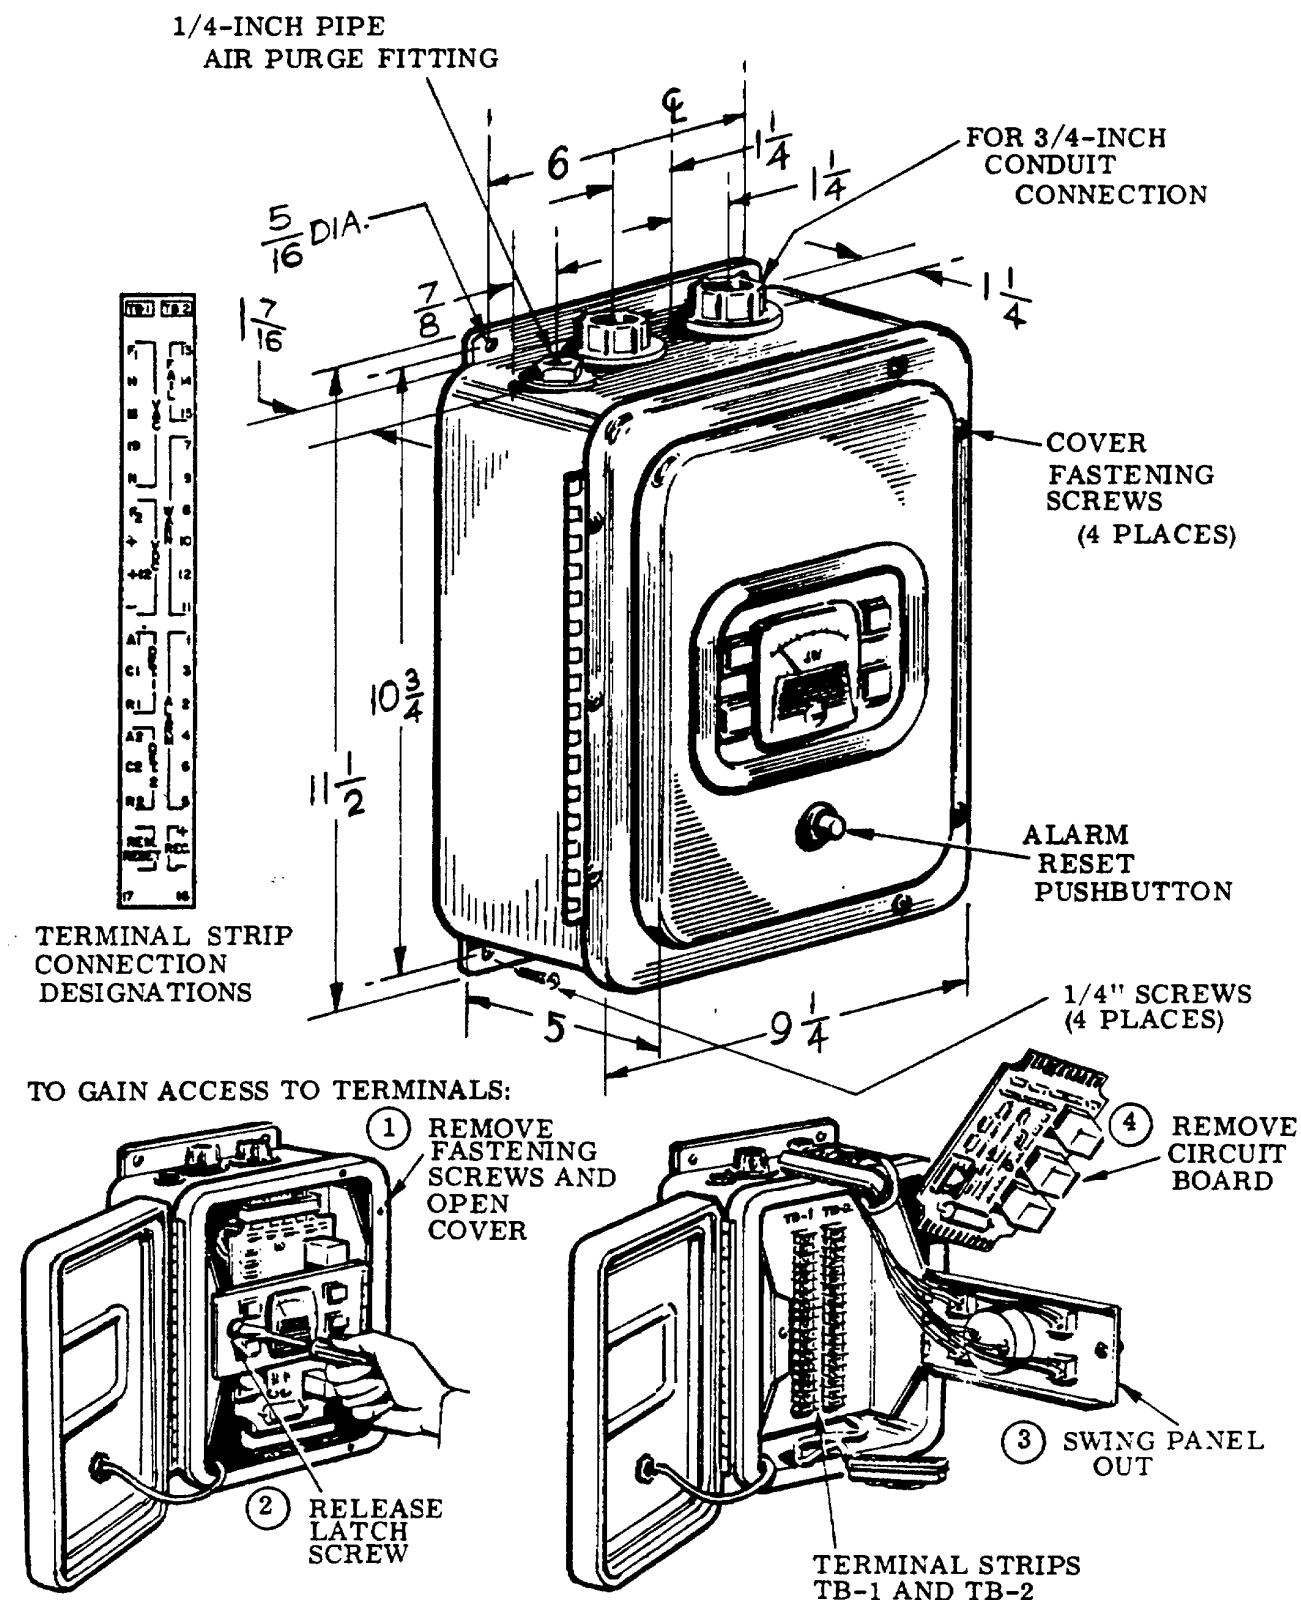
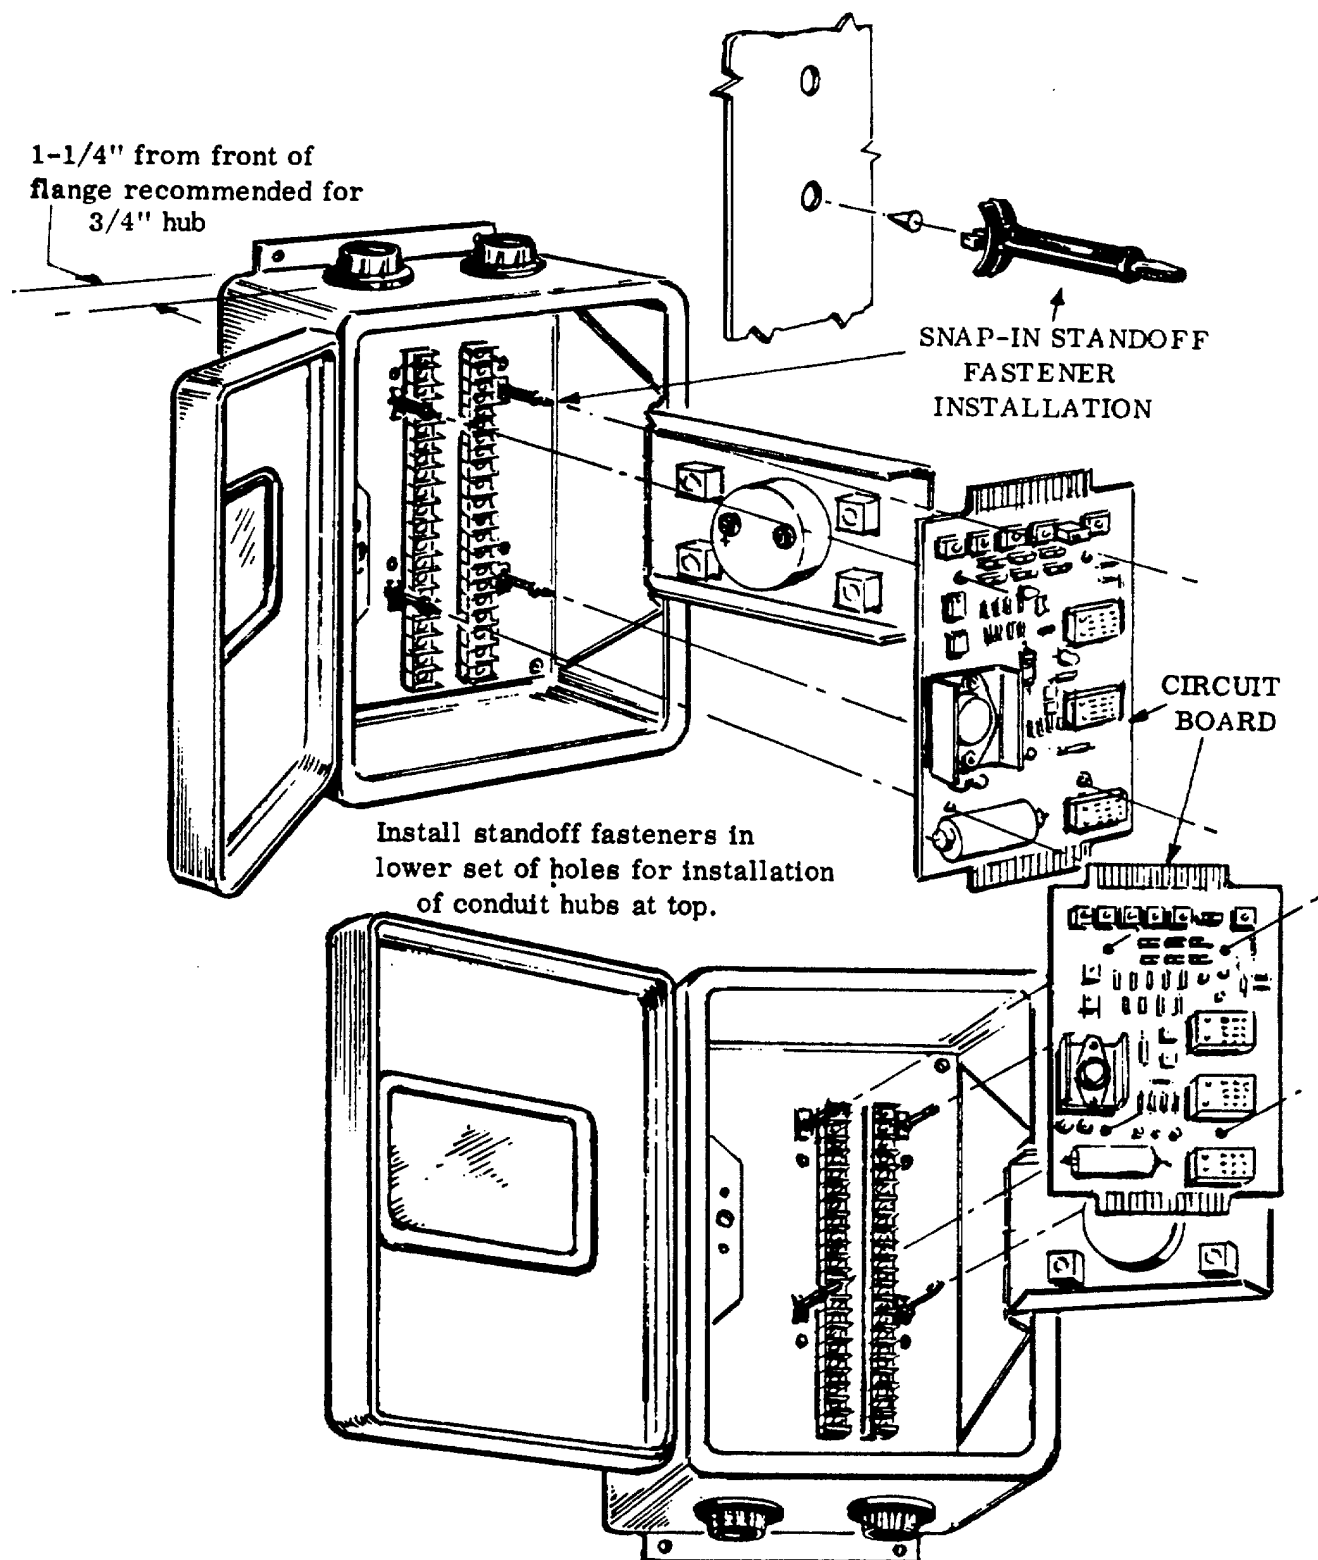

Figure 2-4. CD800W and 802W Wall-mounting Cabinet Installation
Figure 2-5. Installation of Circuit Board Standoffs for CD800W and CD802W Cabinets Without Factory-installed Conduit Hubs
- 2-4.2 **CD800W, CD802W** single module, fiberglass, wall mounting cabinet: Mount on wall at selected location by means of four 1/4" screws through holes in rear top and bottom flanges on cabinet. Connect conduits to conduit hubs on top or bottom of cabinet (Figure 2-4). For cabinets ordered without conduit hub holes, install snap-in standoffs as shown in Figure 2-5 for on-site installation of hubs at top or bottom of cabinet. Install grounding hub and groundwire.